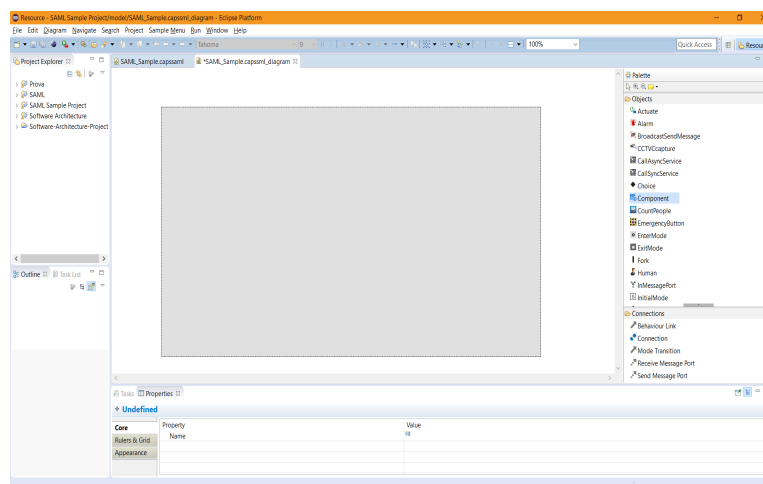

Figure 2.10: Creating the component
- Let's create something. Imagine that we want to model the following scenario: a temperature sensor that senses the temperature and sends it to a server. First of all, find the **component item** in the palette. Select it and create it in the center of the view (just create a rectangle like in paint: left click and enlarge it as you wish) (figure 2.10);